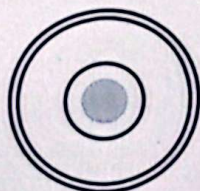

Fig.4.5
- 8) Adjust the leveling foot screws ⑥ until the bubble is exactly centered in the center circle. (Fig.4.5)